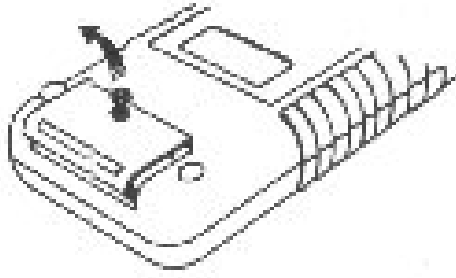

FIG. 1
- To remove the screw to open the vane of the battery (FIG.1)